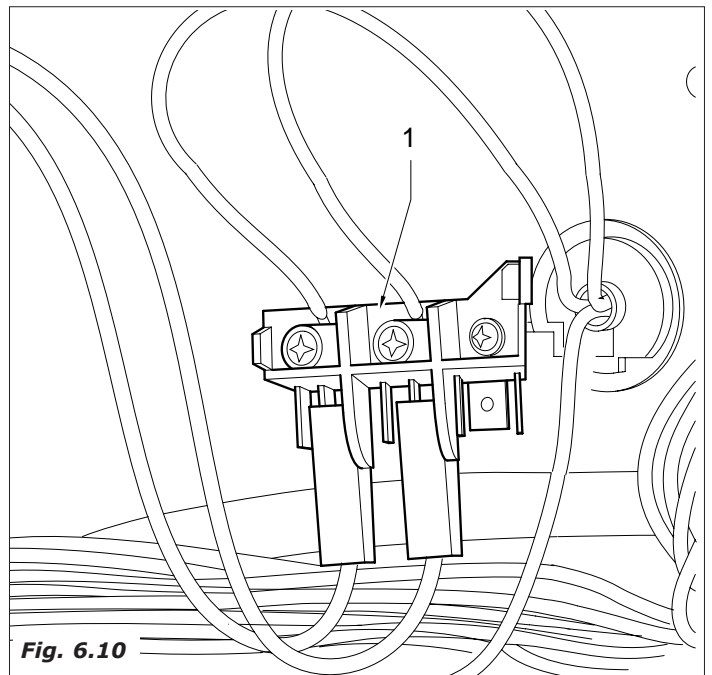
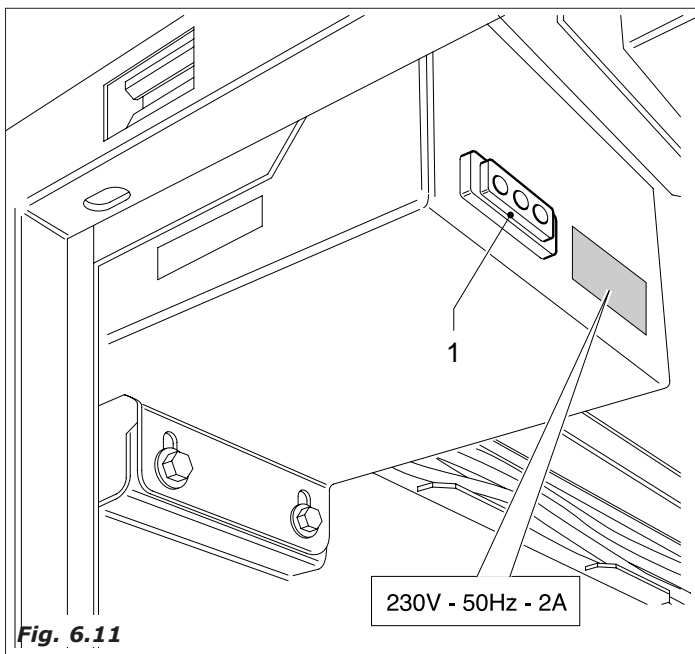

Fig. 6.10
Fig. 6.11
The clamp of the power cable junction box remain under tension (Fig.6.10-pos.1) as well as the service switch inside the distributor. (Fig.6.11-pos.1).